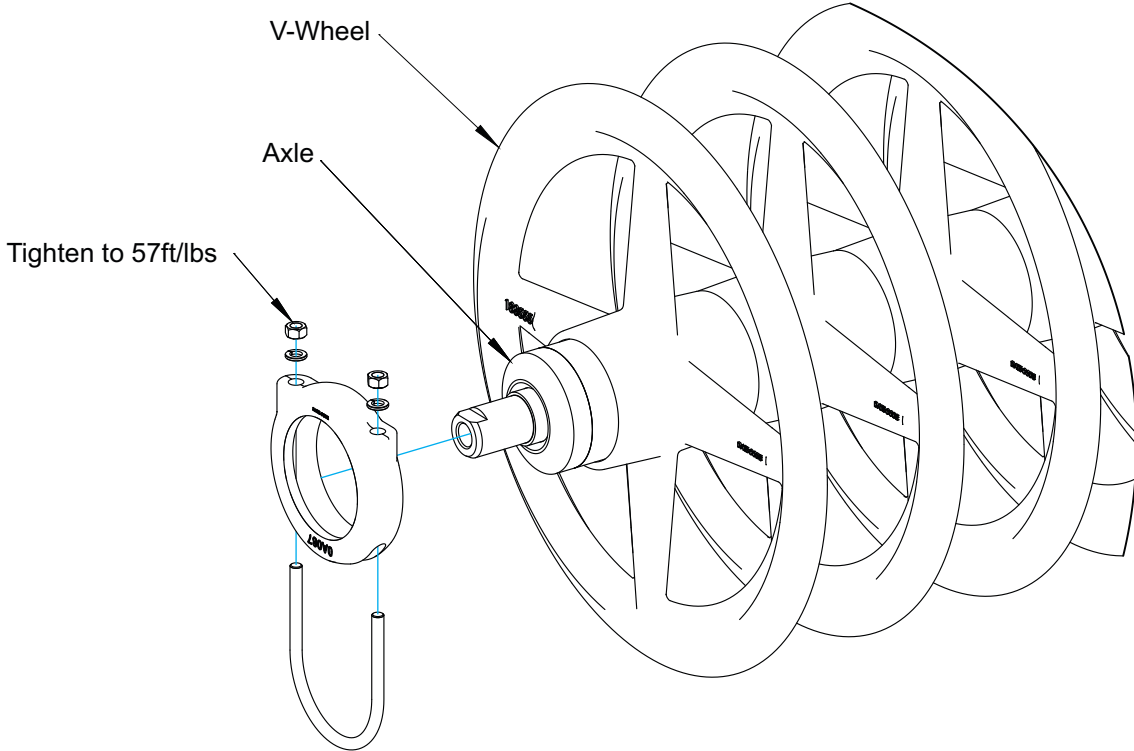

Figure 4-5: Clamp Tightening (2 of 2)
4. Tighten the U-bolt evenly to 57 Ft/Lbs. **See Figure 4-5.**